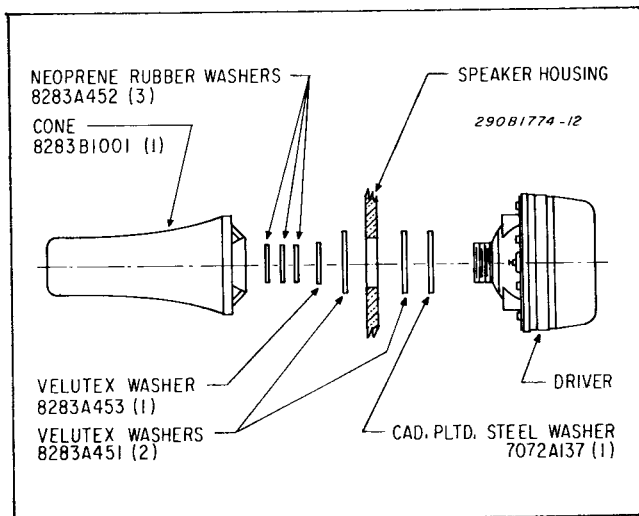

Figure 4-3. Speaker Driver and Cone Replacement.
To replace the speaker driver and cone, proceed as follows (see Figure 4-3):
2. Unscrew the cone, being careful not to lose the five (5) washers.
5. Remove the driver, being careful not to lose the two (2) washers.
7. Reinstall the driver. Ensure that washers are installed correctly (see Figure 4-3). Reconnect the driver lead wires to the light assembly feed wires. Secure connections with wirenuts.
8. Reinstall cone. Ensure that washers are installed correctly (see Figure 4-3).